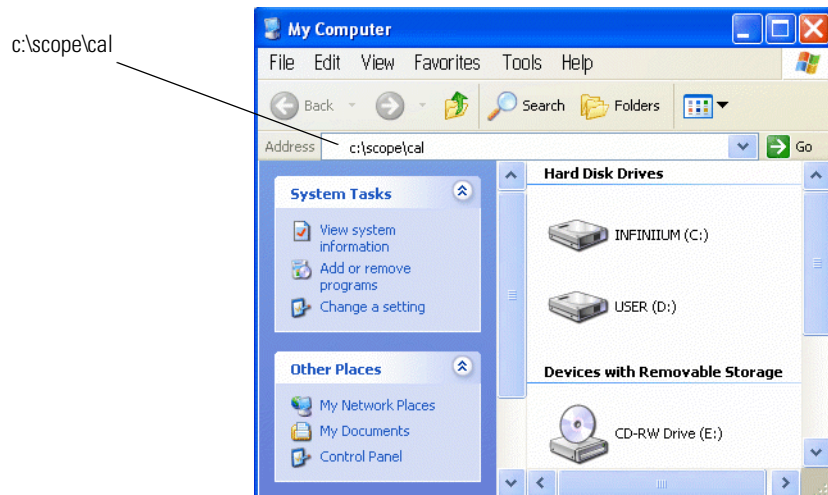

Figure 1-25. Locating the file `framecal.dat`
- e** Enter the path, `c:\scope\cal`, in the address line as shown in Figure 1-25 on page 1-34. Then, press **Enter** to locate the file, `framecal.dat`.
- d** Copy this file and paste the file into the folder, c:\scope\cal. Locate the folder by entering the path, c:\scope\cal, in My Computer as shown in Figure 1-25. Click **OK** to overwrite the current file.